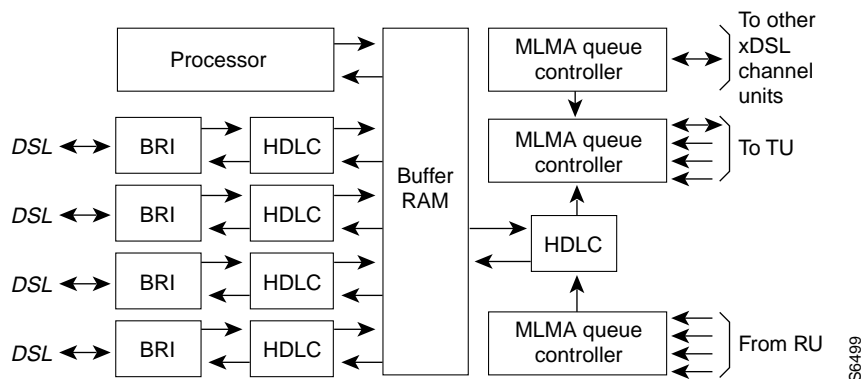

Figure 3 Cisco 90i IDSL Channel Unit Functional Diagram
3.01 Functional Diagram—Figure 3 is a functional diagram of the Cisco 90i IDSL Channel Unit. The channel unit consists of the following: